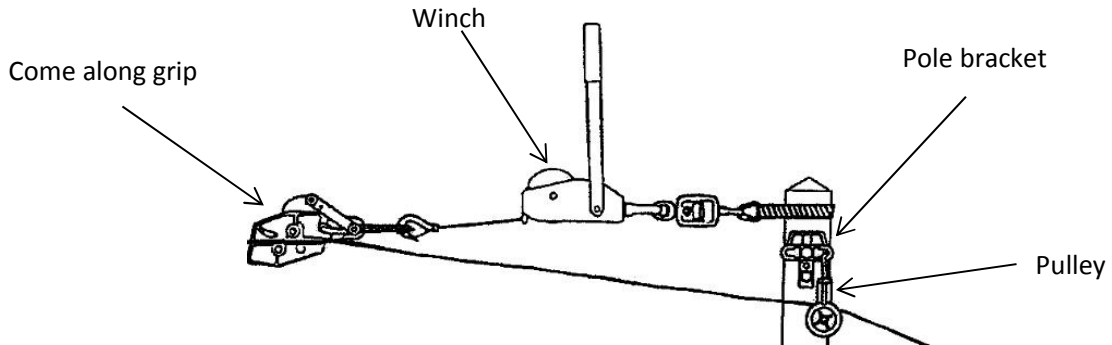
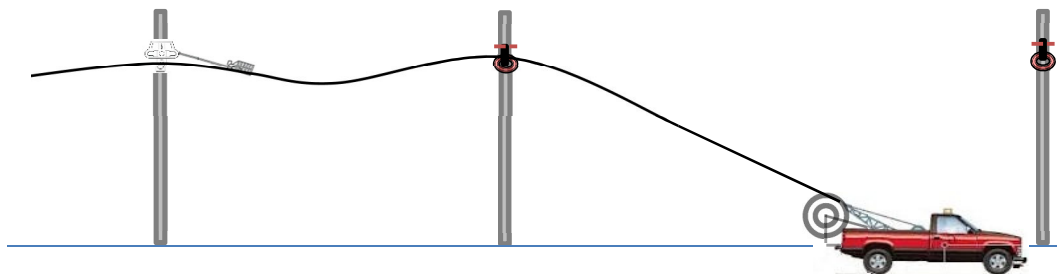

Fig 3 : Tension adjustment
Fig 4: Moving reel method
6. Once the cable in place install the first dead-end (Anchoring clamp) adjust the tension on next pole with dead-end and then install the second one dead-end. (See Fig.3). After installation of dead-ends the pulleys shall be removed.
Moving reel method permit the payoff of cable directly from moving of cable drum placed on vehicle or drum trailer. This method has advantages over the stationary reel method in that temporary cable blocks and pulling rope in some situations are not required (See Fig. 4). But in case of obstructions (trees, road crossing etc.) on the line the combination of the booth methods should be not excluded. The vehicle with cable drum passes poles by poles the cable is placed on suspension clamps (J hook type) or suspension pulleys (for other types). When the vehicle reach the pole with dead-end the tension is adjusted (See Fig .3) and the cable is secured in dead-end. After cable tensioning cable is secured on intermediate poles in the suspension clamps.